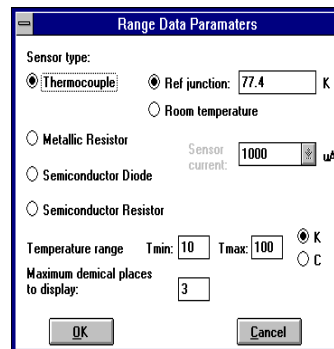

Figure 4
- Click on the file corresponding to the sensor which you are using and click on “OK”. A new dialog box, similar to Figure 4 will now appear